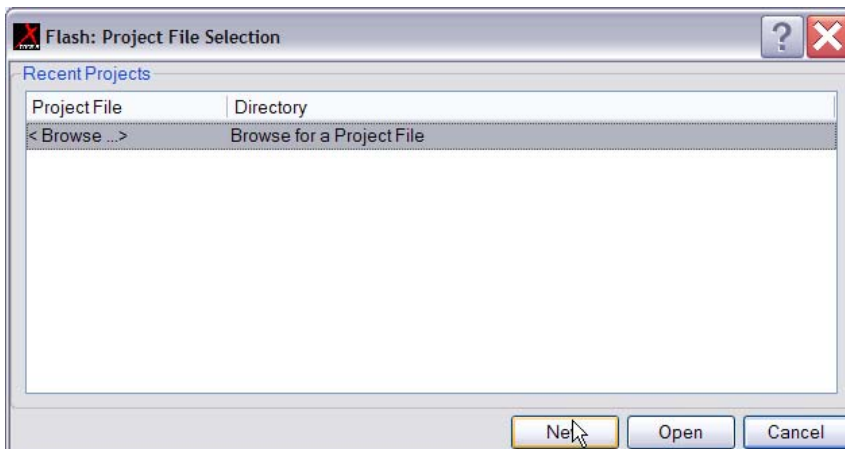

Figure 1. Smart Flash Programmer – Project File Selection Window
1. When you start the Z8 Encore! Smart Flash Programmer after installation, the Project File Selection window appears (Figure 1).